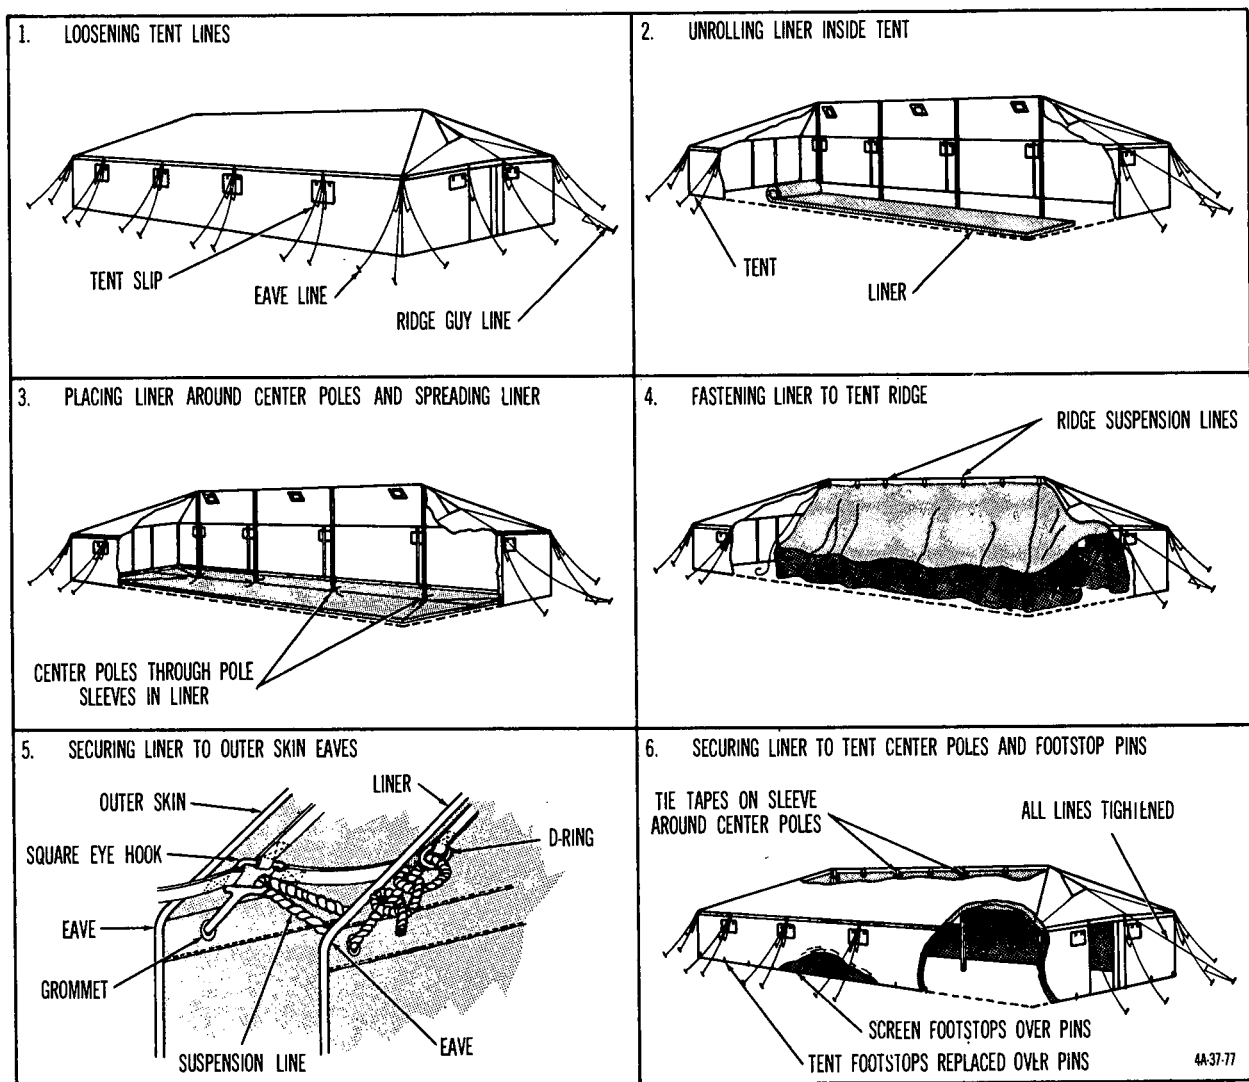

Figure 22. Steps in attaching liner to tent, general purpose, large.
- (5) *Attaching liner to tent* (fig. 22).
- (a) Loosen slightly all guy lines by adjusting tent slips (1).
- (b) Unfold tent liner inside tent on one side of center poles so that stovepipe openings of tent liner are on the same side of tent as stovepipe openings of tent (2).
- (c) Lift each center upright pole, pull liner under pole, and slip liner pole sleeve over pole (3).